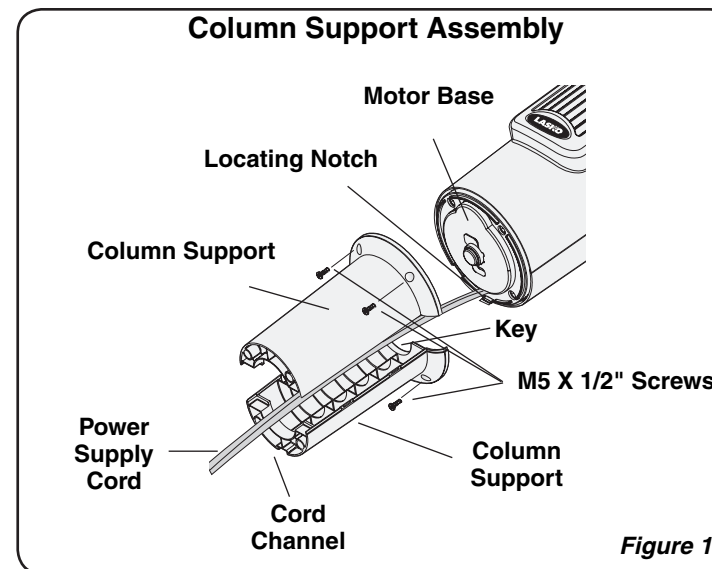

Figure 1
- Locate the **Power Supply Cord** at the bottom on the Fan. Place the **Power Supply Cord** in the **Cord Channels** of the **Column Supports**. Snap the **Column Supports** firmly together to form a **Column Support Assembly**. (**Figure 1**)
- Attach the **Column Support Assembly** to the **Motor Base** with (4) 1/2" Long **M5 Screws**. Make certain to align the **Key** on the **Support Column Assembly** with the **Locating Notch** on the **Motor Base**. (**Figure 1**)